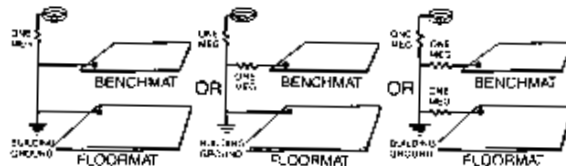

Figure 16. Proper wiring diagrams for conductive and dissipative ESD workstations.
8. Your completed installation of a Desco ESD workstation should comply with one of the electrical diagrams illustrated in Figure 16.